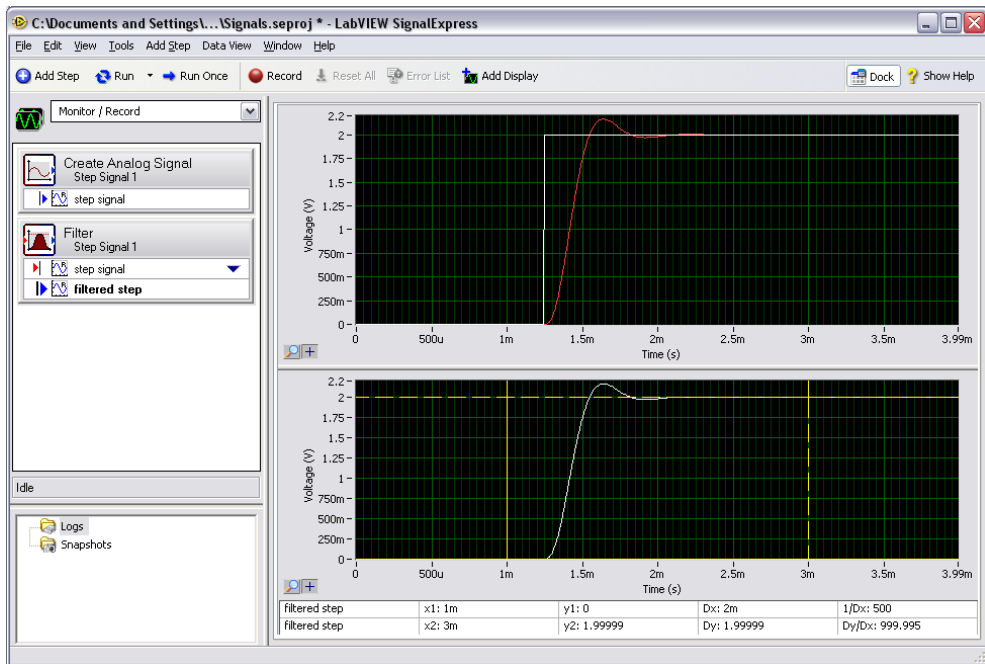

Figure 5-1. Signals.seproj
6. Right-click the new graph and select **Visible Items»Cursors** from the shortcut menu to display two interactive cursors, as shown in Figure 5-1.